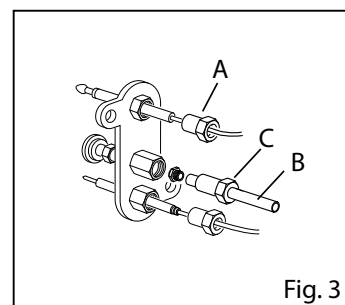

Fig. 3
- Remove the thermocouple from the valve (Fig. 2/A) and the pilot group (Fig. 3/A)
- Disconnect the high voltage cable of the plug (Fig. 3/B)
- Unscrew the nut (Fig. 3/C)
- Connect the high voltage cable (Fig. 3/B)